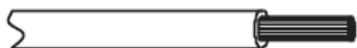

Fig. 21 —Stripping the Wire
2. Strip a suitable length of the insulation layer as shown in Fig. 21.